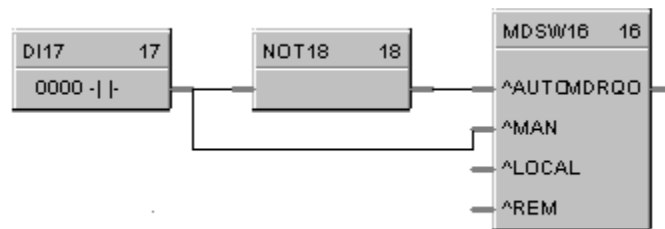

Figure 63 NOT function block example
Figure 63 shows a Function Block Diagram using a NOT function block. Use a single input to place a loop in manual when the input is ON (1) and return to Auto when OFF (0).